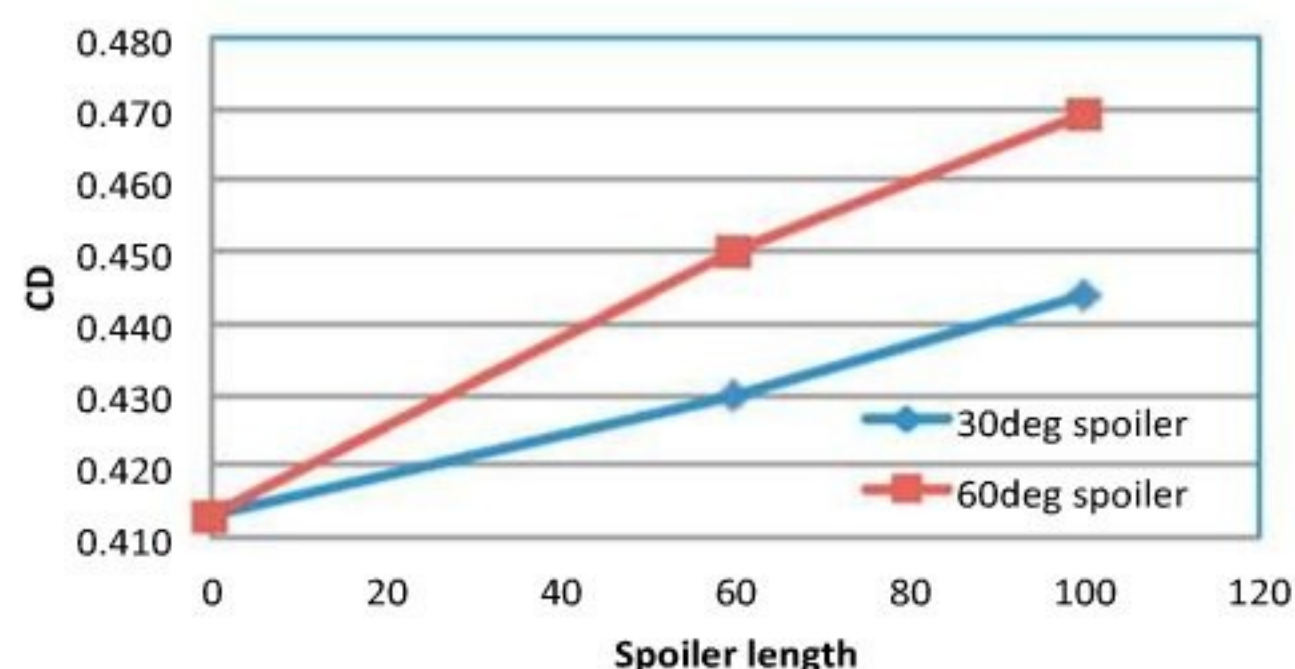

Figure 2: spoiler length and angle versus drag
**Figure 2: underdamped fly-by-wire system, which has overshoot the FBW Target TPS, but then settles. Note that the P-term and the FBW Control Duty are one and the same, as the I and D terms are not influencing the system**